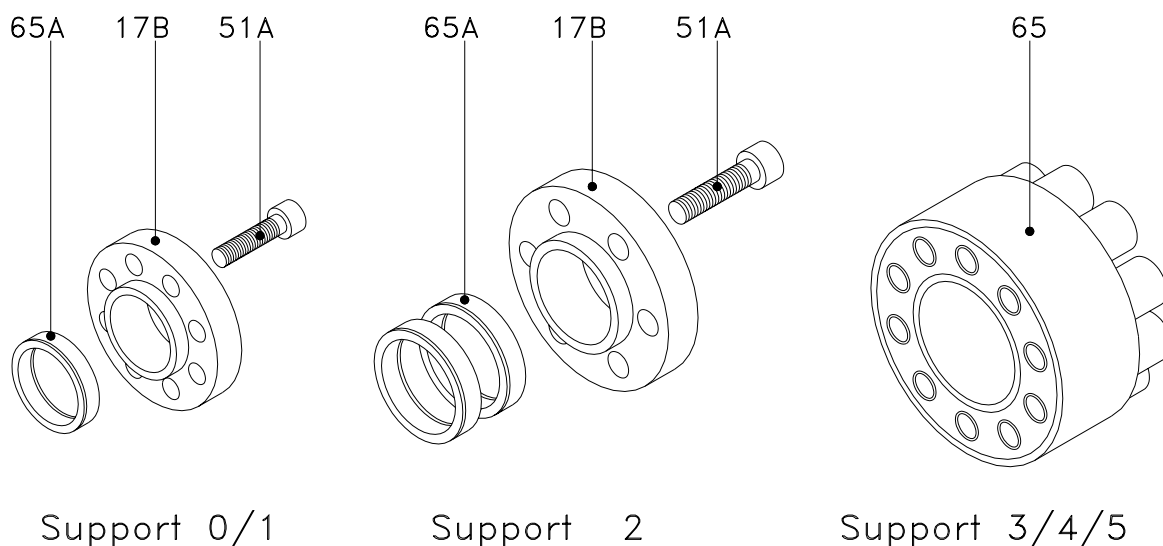

Figure 8.6: adjustable fastening mechanism
- Remove the screws (51D / 52) which have been used to attach the bearing cover (12) in the support (06). These screws are centred respectively by means of two centring pins (56 / 56A).
- Loosen the take up screws of the adjustable fastening mechanism for the driven gear (19A), see figure 8.6. In theory, the take up unit is self-releasing. It is now possible to rotate the driving shaft, whilst the driven shaft can be held stationary.